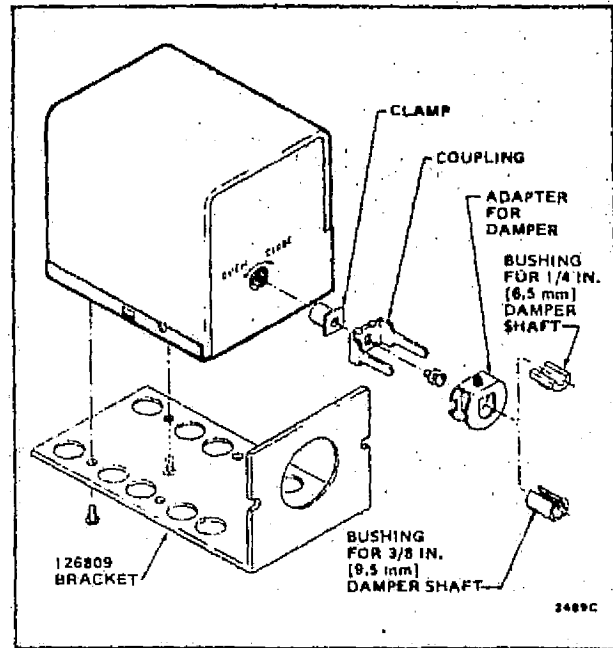

FIG. 4—EXPLODED VIEW SHOWING HOW TO MOUNT 7640JE DAMPER SHAFT COUPLING AND 7640JM MOUNTING BRACKET ASSEMBLY TO MOTOR.
2. 7640JE Bag Assembly - drive bushings, adapter, and coupling for direct drive (Figs. 4 and 7).